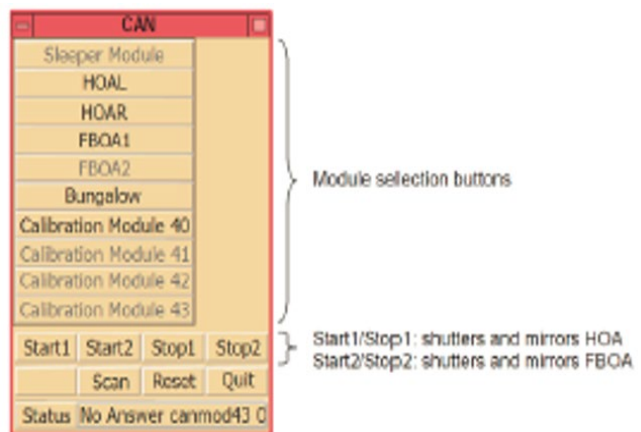

Figure 8 – CAN Tool Screen
1.15 Clean all operational mirrors by opening the shutters using the CAN Tool (See clause 1.12 and figure 8).